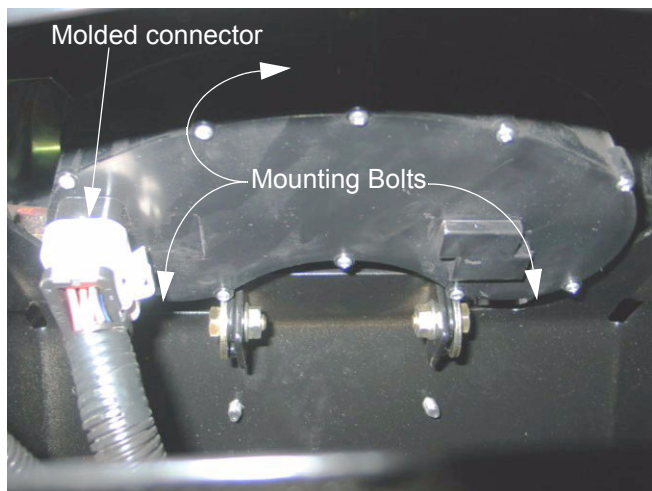

Figure 2.12
2.12. The instrument panel is easily unplugged or removed with the hood open. See Figure 2.12.